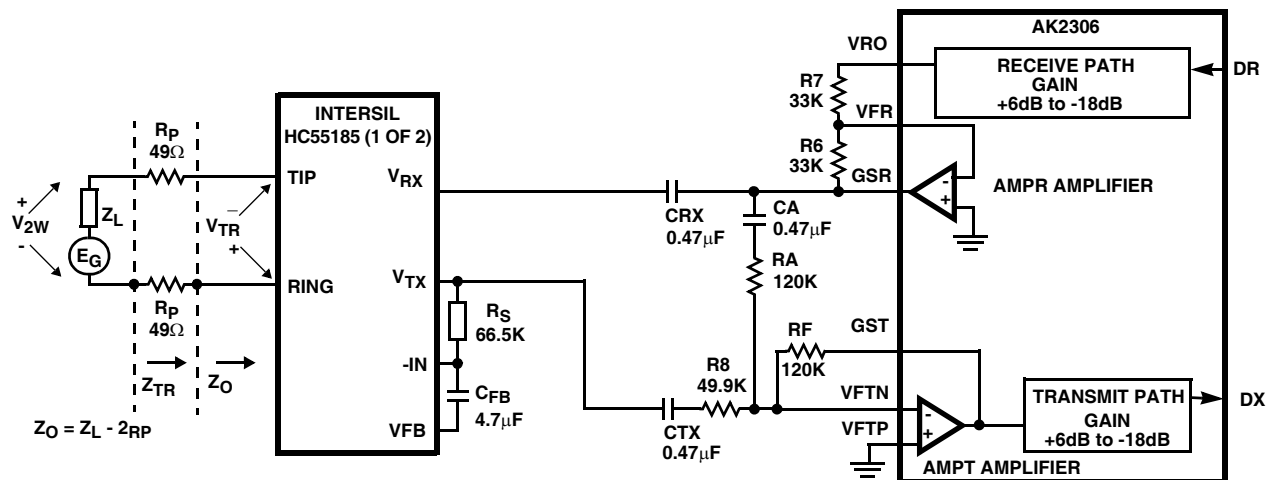

FIGURE 4. RECEIVE GAIN G(4-2), TRANSMIT GAIN (2-4)
The receive gain across the system is defined as the gain from DR to the phone (V_{2W}). With the receive gain through the HC55185 set to 1, the receive gain across the system is entirely controlled by programming the AK2306. The AK2306 can program the receive gain across the system from +6dB to -18dB in 1 dB increments (reference Figure 4).
The transmit gain across the system is defined as the gain from the phone or 2-wire side (V_{2W}) to the PCM highway (DX). Setting the gain of the AK2306 will have to account for the attenuated signal through the HC55185. The system gain is entirely controlled by programming the AK2306. The AK2306 can program the transmit gain across the system from +6dB to -18dB in 1 dB increments (reference Figure 4).
The signals at V_{GSR} and V_{TX} (Figure 4) are opposite in phase. Transhybrid balance is achieved by summing two signals that are equal in magnitude and opposite in phase into the AMPT amplifier inside the AK2306.